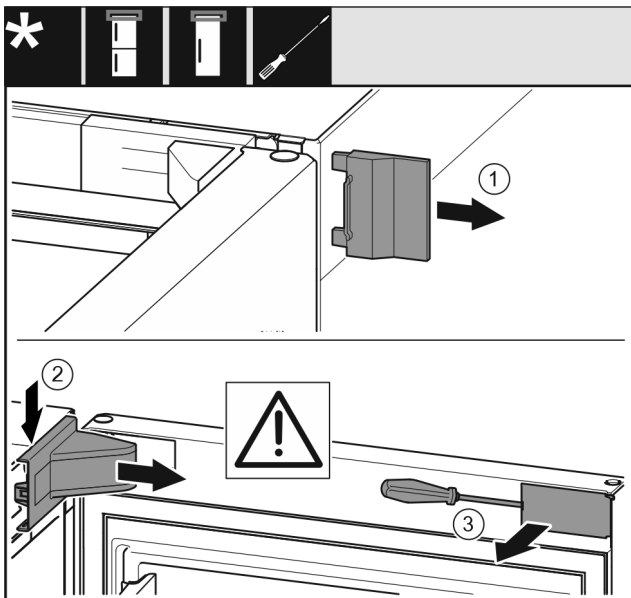

Fig. 5
- Remove the outer cover. Fig. 5 (1)
- Disengage and release the bearing bracket cover. Remove the bearing bracket cover. Fig. 5 (2)
- Unlatch the panel with a slotted screwdriver and swivel it to one side. Fig. 5 (3)